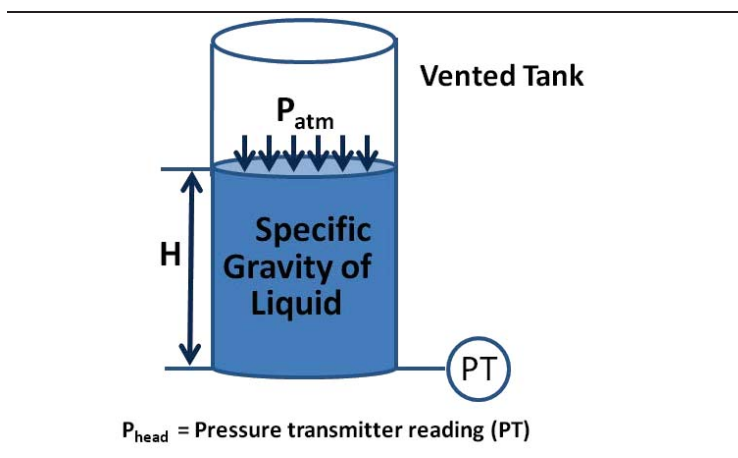

Figure 1.5: Head Pressure
*Head pressure*, also known as *hydrostatic pressure*, is the pressure exerted by a column of fluid (Figure 1.5). Head pressure is directly proportional to the specific gravity (S.G.) of the fluid and the height of the fluid column.